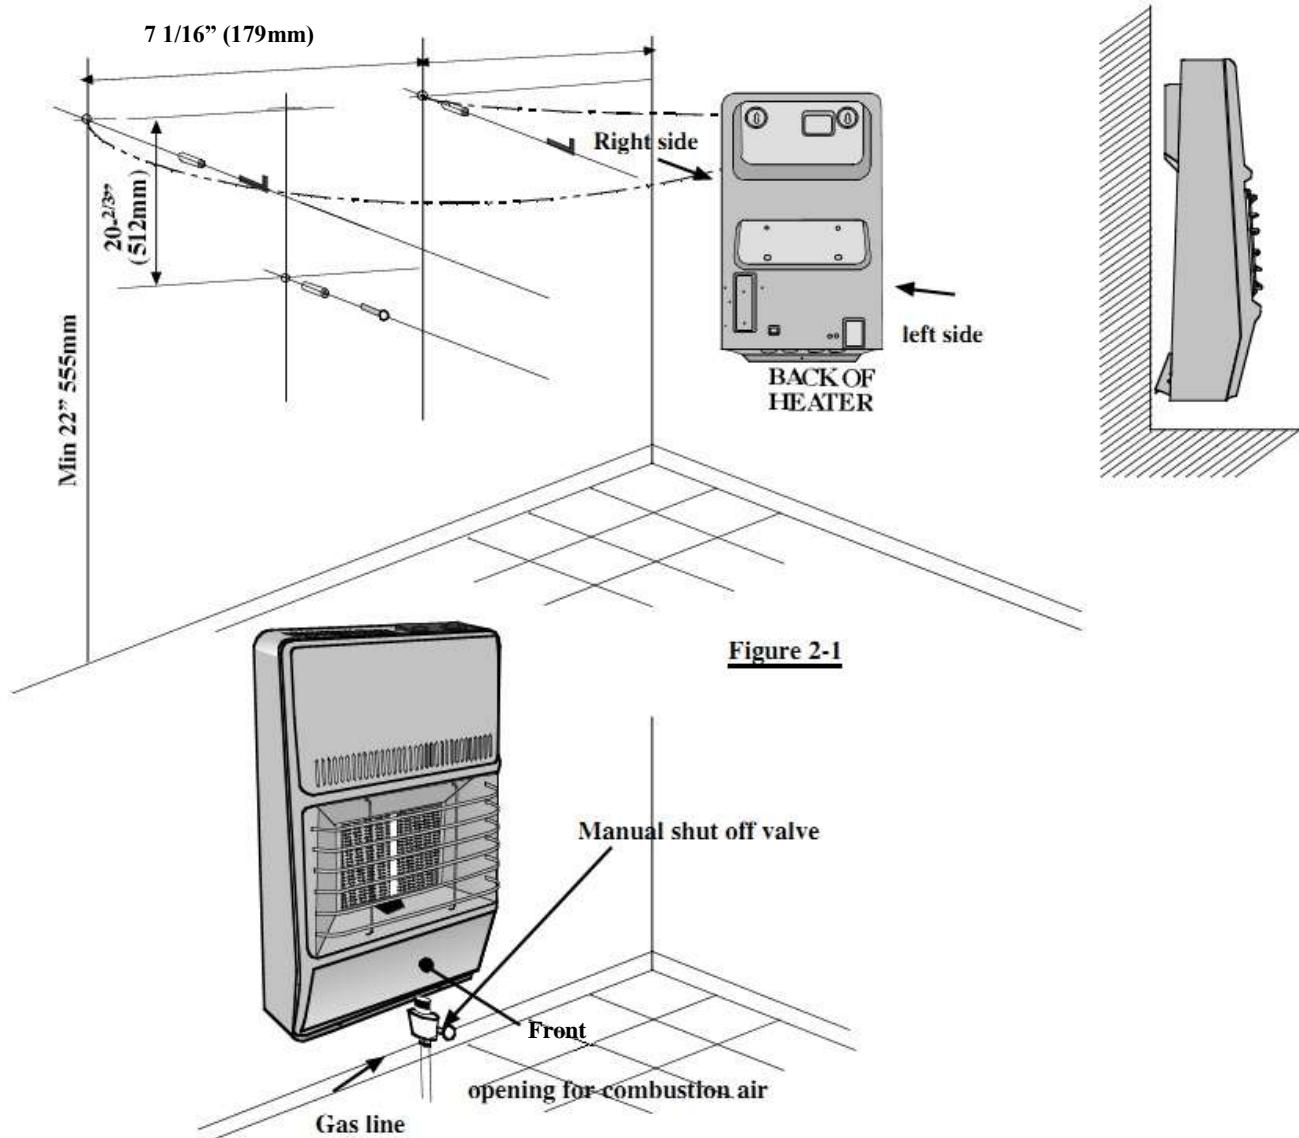

Figure 2-1
1. Select the elbow position as indicated in Figure 2-1.
2. Drill two (2) 5/16" holes according to the dimensions shown on the upper corner of Figure 2-1.
4. Screw in the three (3) plastic expansion anchors furnished with the unit, as shown in Figure 2-1.
5. Screw in the furnished screws to the anchors for the upper mounting points and hang the heater on the screws as shown in Figure 2-1.